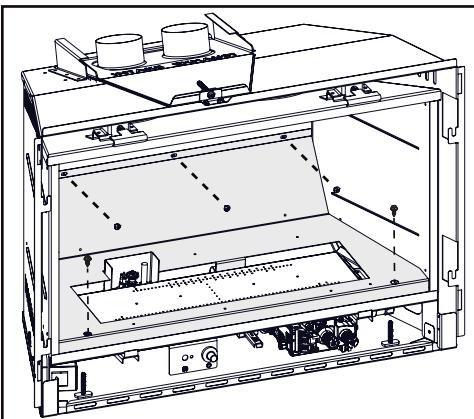

Fig. 1
- 3. Uninstall 5 screws that hold the media tray in place and lift the cover up and out (**Fig. 1**).